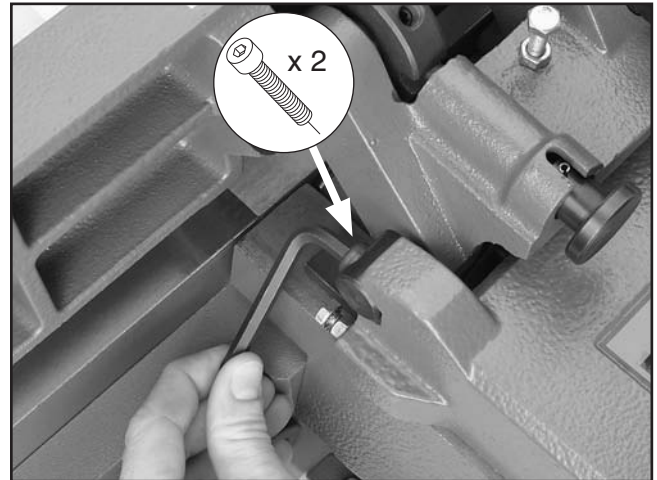

Figure 19. Installing the fence.
21. Use the two pre-installed cap screws on the fence carriage to install the fence, as shown in **Figure 19**.